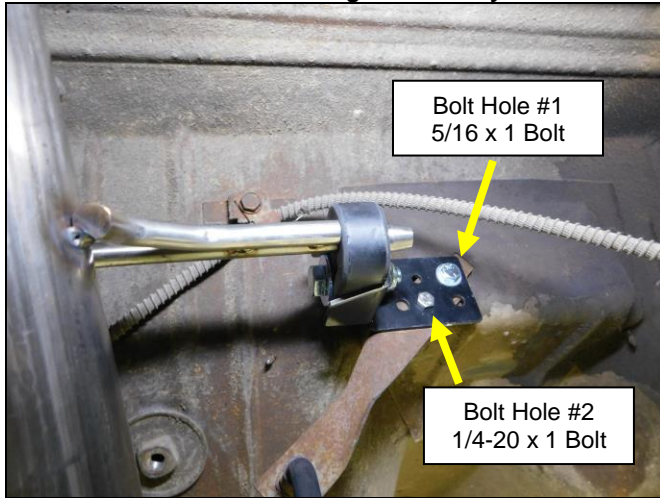

Figure 6
6. Install a provided 5/16 x 1" bolt into bolt hole # 1 of the muffler hanger bracket (**Figure 6**).
7. Install the Left (driver's side) muffler hanger bracket with a provided 5/16 x 1" bolt in to the same location as the bolt removed from the brake line bracket (**Figure 6**).
10. Install the provided 1/4-20 x 1" bolt with flange nut and tighten (**Figure 6**).